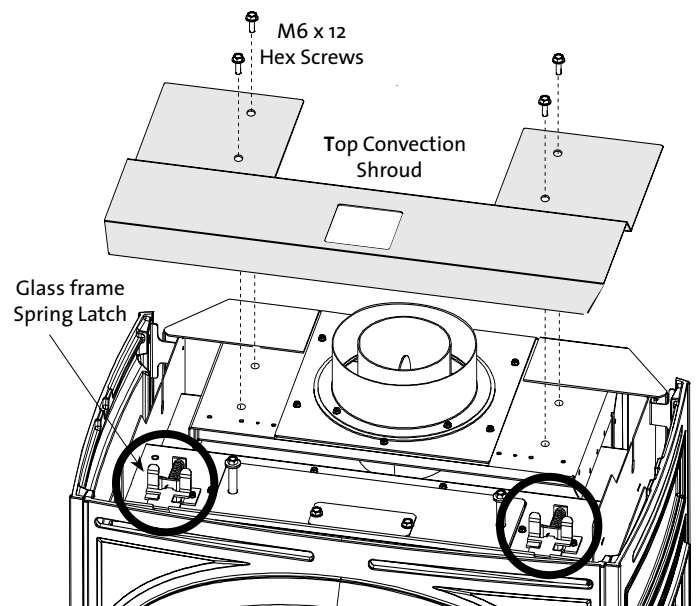

Figure 2.2 Remove the Top Convection Shroud and disengage the glass frame latches.
- a) Remove four hex head screws using a 10 mm wrench and disengage the Top Convection Shroud from the top of the firebox. See fig. 2.2.